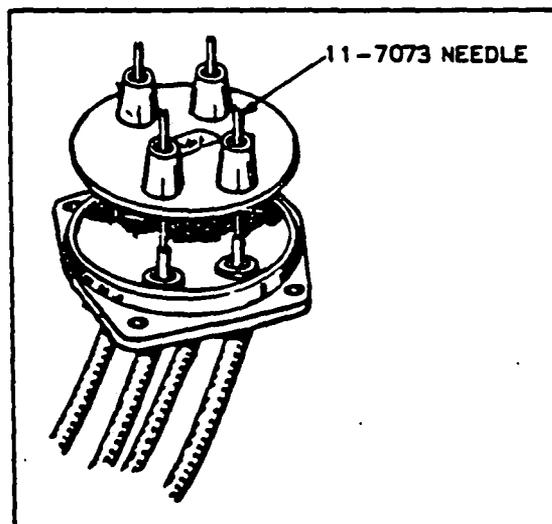
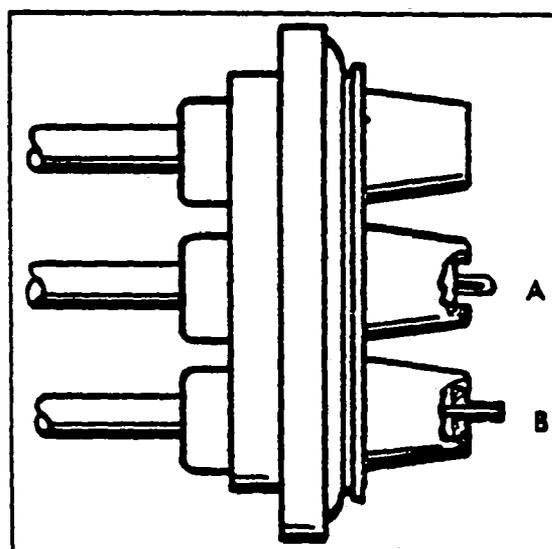

Figure 8-24. Installing Grommet Over Lead Assemblies
Figure 8-26. Wire Doubled Over For Installation of Eyelet.
met and over stripped end of wire. (Refer to Figure 8-24.) Slide grommet down needle until it seats tightly against the tapered ferrule.
14. Cut wire $3/8$ inch from top of grommet outlet. (See Figure 8-24.) Double wire over as shown in A of Figure 8-26. Slide eyelet over doubled wire until it is firmly seated in recess of grommet outlet.
15. Using the "AB" groove of Scintilla 11-4152 Crimping Tool, or equivalent, crimp eyelet to wire. Approximately 1/32" of wire should extend from end of eyelet after crimping. See B of Figure 8-26.